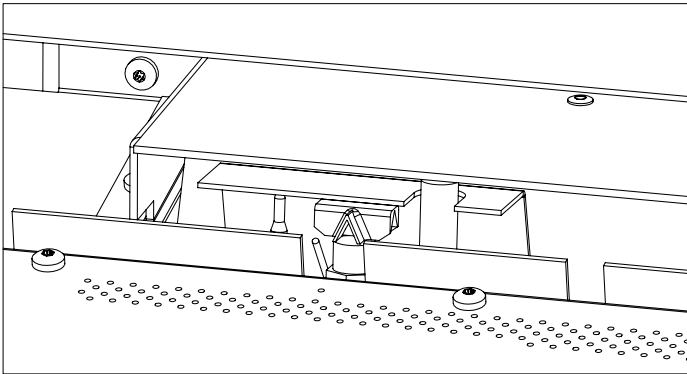

Figure 27: Pilot Orientation
4. Convert the existing pilot orifice with the one provided in this kit (see Figure 25) using a 7/16 inch wrench. Fully unthread and remove the pilot head and replace the orifice insert. Retighten pilot, if head does not reach proper orientation in the snug position then contact your Enviro dealer (see Figure 27).